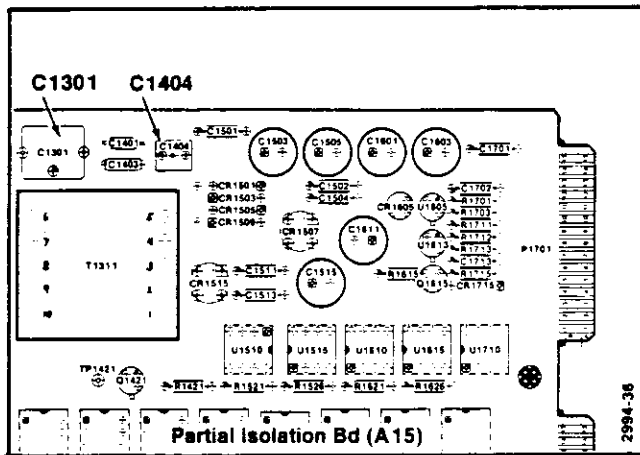

Fig. 7-6. Location of C1301 and C1404.
b. ADJUST—C1301 for minimum amplitude of the displayed square wave ($\approx 33 \mu\text{s}$ period). Refer to Fig. 7-6.